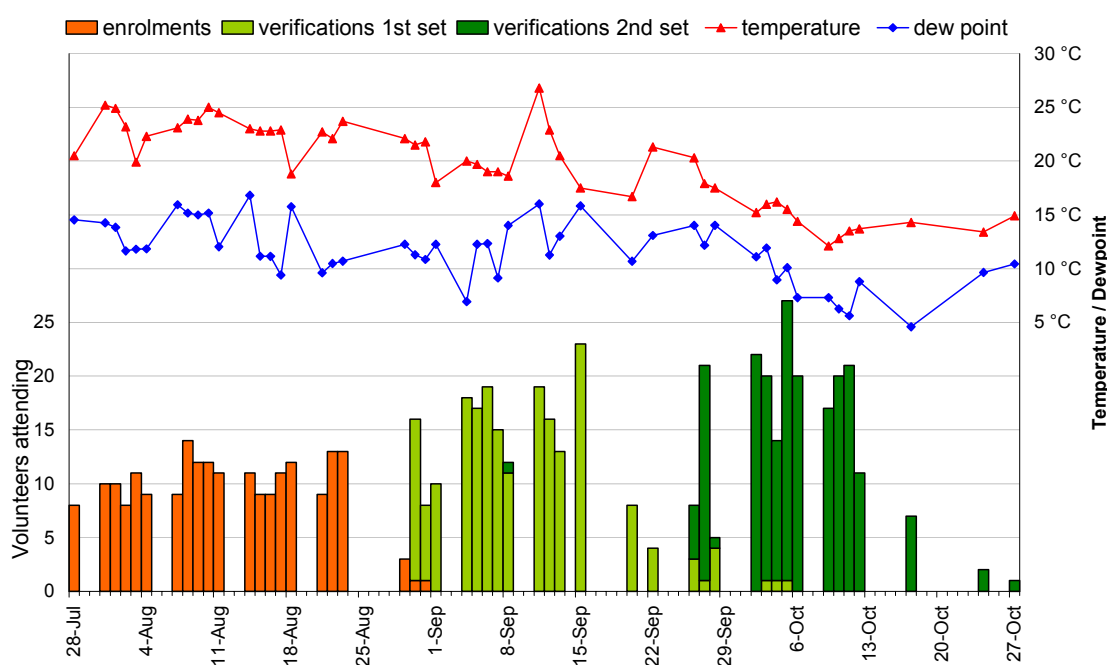

Figure 2. Environmental conditions during the trials
15. The temperature and humidity of the test laboratory were not controlled. Figure 2 indicates how outdoor temperature¹ and humidity² varied between the days of the trials
16. Figure 2 also shows the daily distribution of enrolment and verification transactions. On average the first set of verifications was made 29 days after enrolment, and the second set of verifications, 55 days after enrolment.